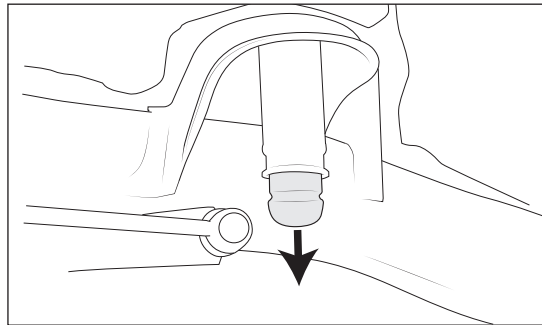

Figure 16
- A. Remove urethane bumpstops from inside spring towers. These simply press into place, so remove them by wiggling them downward and sideways, or carefully prying with large channel locks (Fig 16).